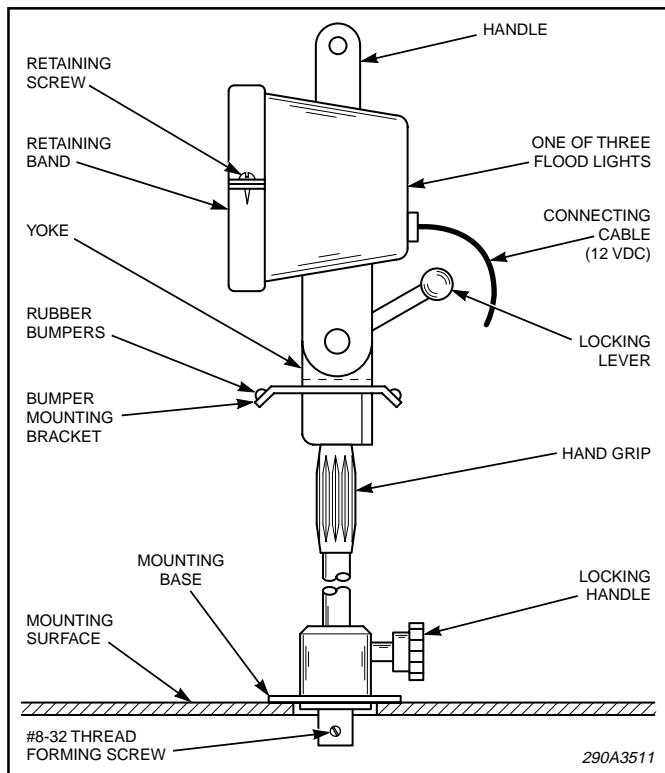

Figure 2.
1. Remove the retaining screw from the retaining band (see figure 2). Lift the retaining band from the light.